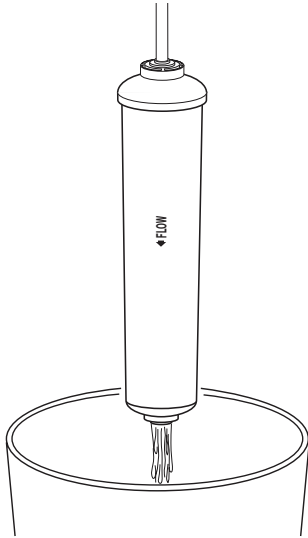

Figure 3
5. Turn on the incoming water supply and flush the filter into a bucket. Run water for 5 minutes to flush out air (see Figure 3).